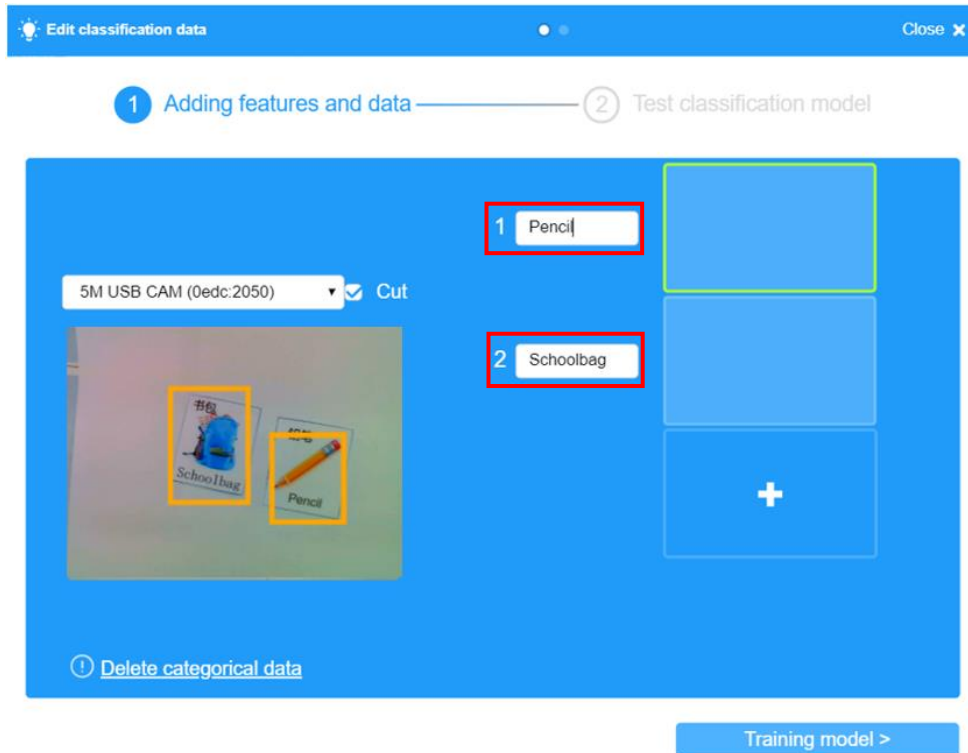

Figure 4.5 Creating the data set label
Step 7: Create a data set label. Click the plus sign to add a data set, and set the name of the data set to "Pencil" and "Schoolbag", as shown in Figure 4.5.